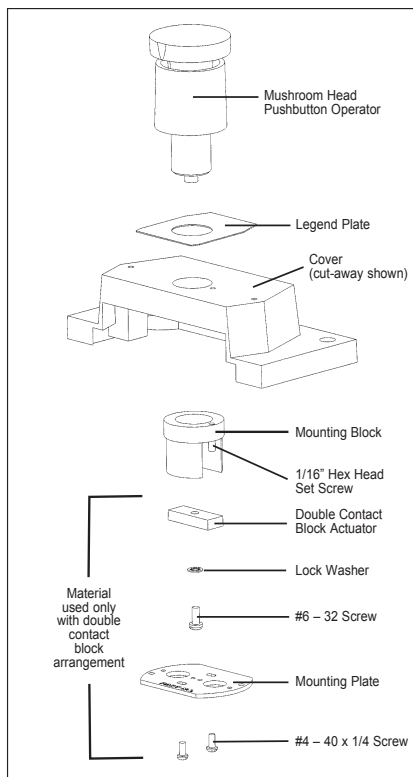

Figure 6. Assembly of Momentary Mushroom Head Pushbutton Operator
- Fasten the mounting block to the inside of the cover. Orient the mounting block so that the contact block is in the desired position as shown in Figure 2. This step will allow the contact block to be in the proper position. Tighten the set screw, thereby locking the pushbutton assembly to the cover (see Figure 6). Tighten the set screw, thereby locking the pushbutton assembly to the cover.
- Fasten the mounting block to the inside of the cover. Orient the mounting block so that the contact blocks will be in the desired position (see Figure 2). Tighten the set screw, thereby locking the pushbutton assembly to the cover (see Figure 6). Using the one (1) #6-32 x 5/16 pan head screw and lock washer, fasten the double contact block actuator to the plunger of the pushbutton operator assembly. Next, fasten the mounting plate to the mounting block using the two (2) #4-40 x 1/4 pan head screws provided.